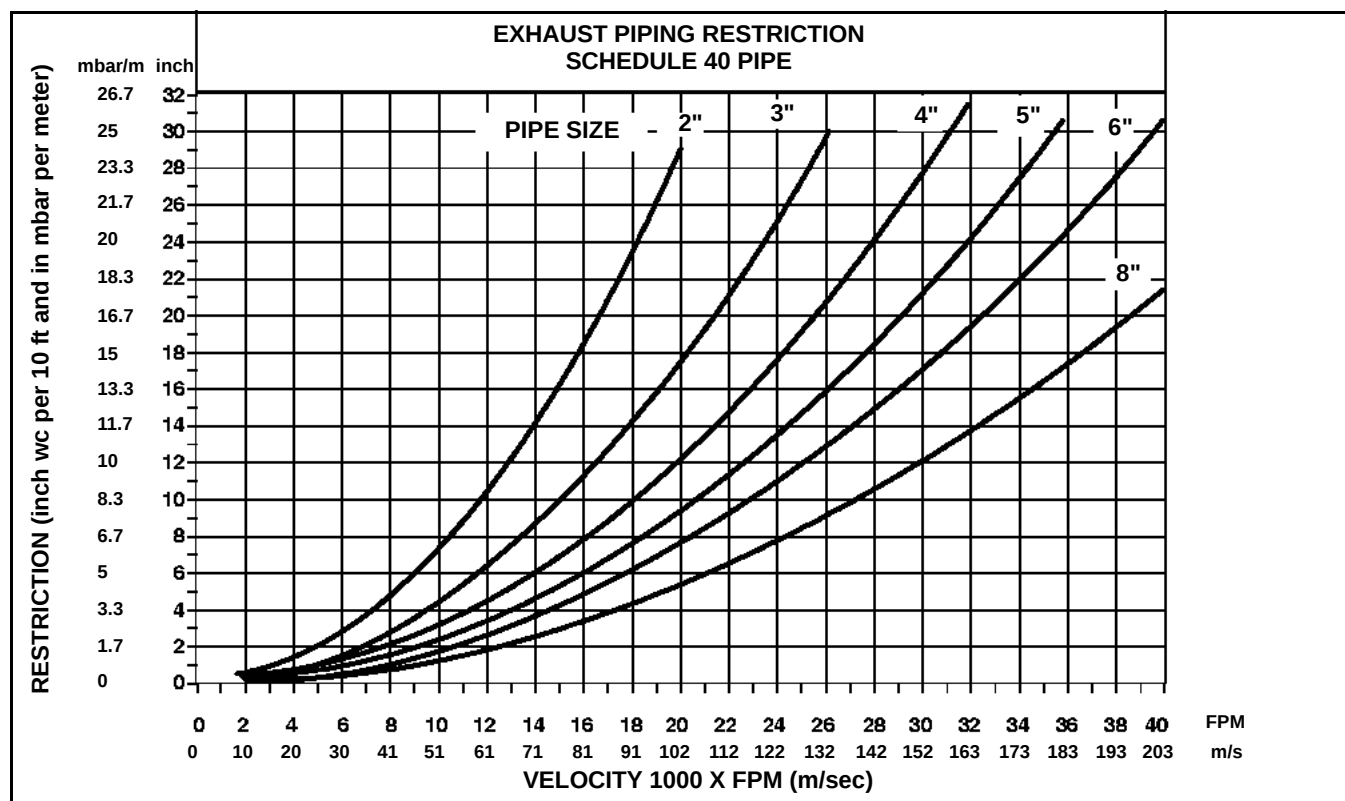

Figure 7-3 Restriction Vs. Velocity for Pipe Diameter up to 8"(High Speed)
3. Determine pressure loss (P_L) per 10 ft (3m) of pipe for each velocity and pipe size from Figure 7-3 and Figure 7-4.